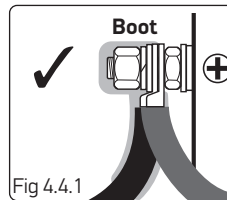
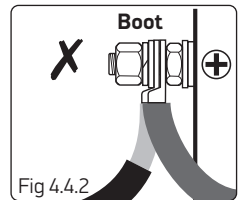
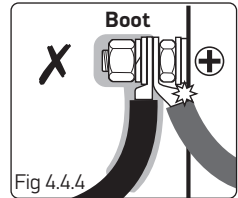

Fig 4.4.1
Fig 4.4.2
Fig 4.4.4
- ▶ Correct installation. Supplied cable boots are used and no bare wires exposed (Fig 4.4.1).
- ▶ Live wire exposed! (Fig. 4.4.2). Correct the cable installation to match (Fig 4.4.1).
- ▶ Crimp inverted and is touching motor! (Fig 4.4.4). Correct the cable installation to match as (Fig 4.4.1).